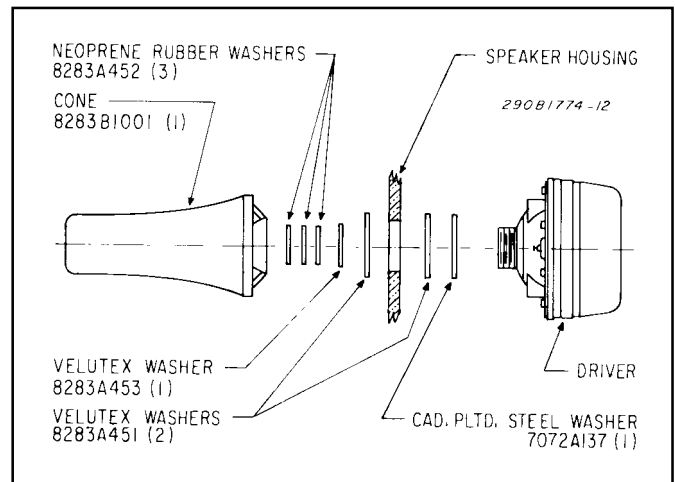

Figure 4. Speaker Driver and Cone Replacement.
To replace the speaker driver and cone, proceed as follows (see figure 4):
2. Unscrew the cone, being careful not to lose the five (5) washers.
5. Remove the driver, being careful not to lose the two (2) washers.
7. Reinstall the driver. Ensure that washers are installed correctly (see figure 4). Reconnect the driver lead wires to the light assembly feed wires. Secure connections with wirenuts.
8. Reinstall cone. Ensure that washers are installed correctly (see figure 4).